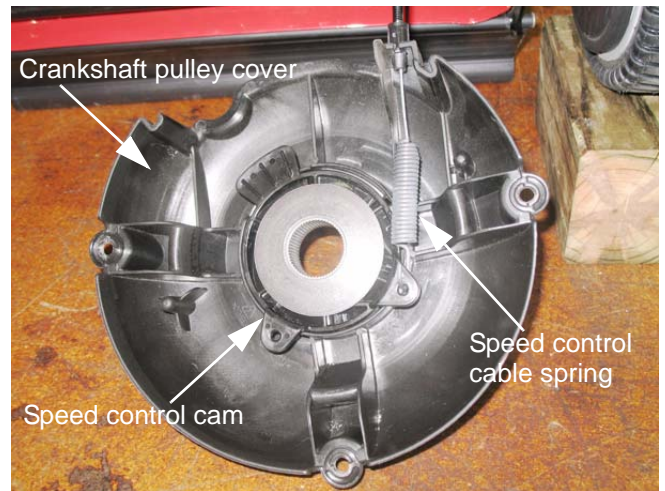

Figure 5.5
2. Un-hook the spring from the arm on the speed control cam. See Figure 5.5.